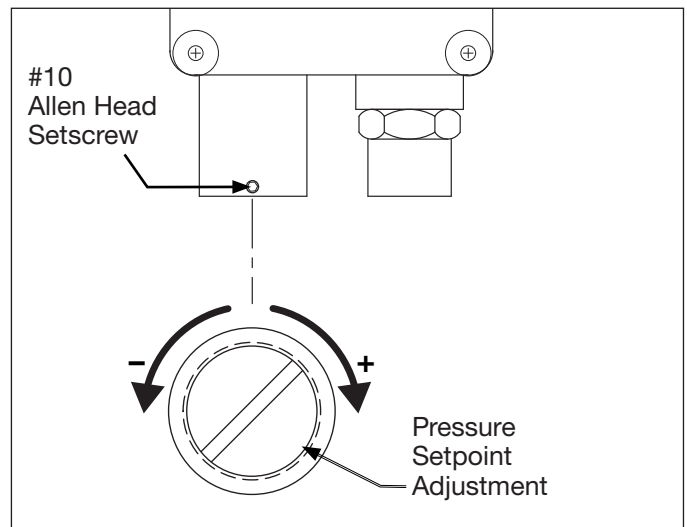

Figure 12: Pressure Switch Setting Adjustment
4. Loosen pressure switch setscrew with a #10 Allen wrench. See Figure 12.
5. Place the control valve lever in the advance (A) position.
7. Using a flat blade screwdriver, turn pressure switch adjustment screw clockwise to increase the switch setting and counter-clockwise to decrease it. See Figure 12. Verify that switch opens and pump motor stops at the desired pressure setting.